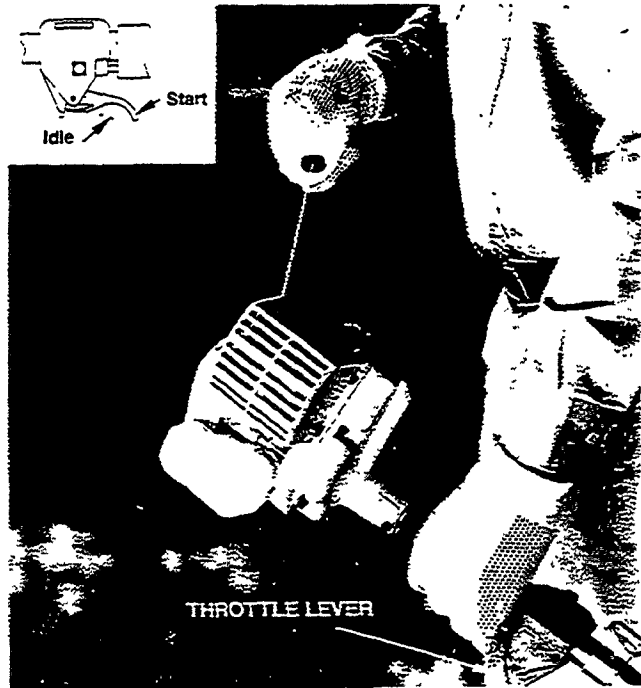

Figure 19
- Lock throttle lever in the start position as shown in (Figure 19).
- Pull starter rope slowly, until engine compression is felt (Figure 19). Pull the starter in short rapid strokes until engine starts.